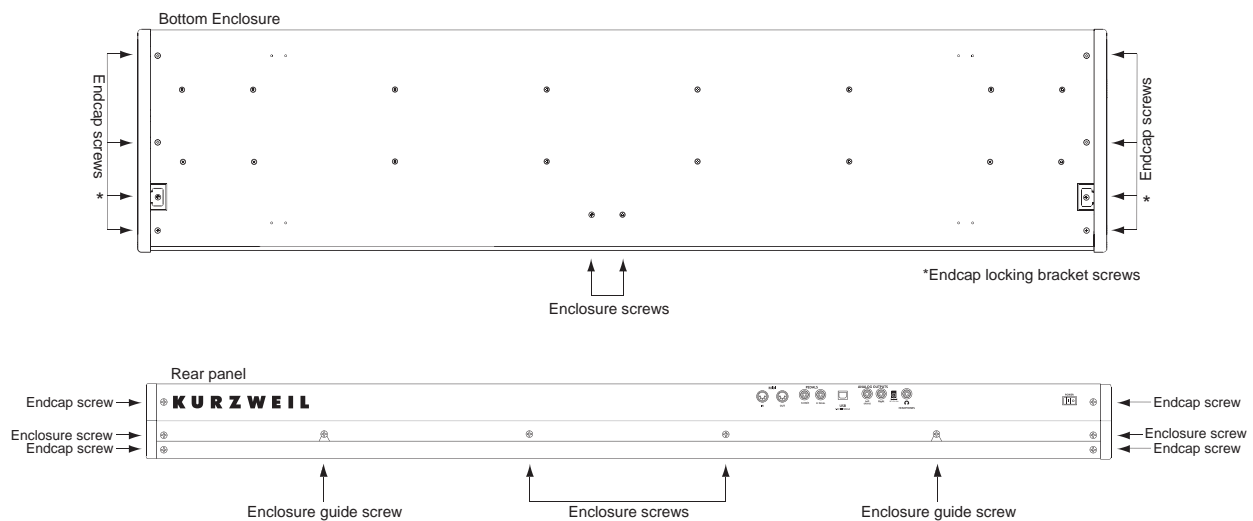

Figure 3-1 SP4-7 Screw Locations
Refer to Figure 3-1. Arrows indicate the locations of the endcap and enclosure screws.
3. Remove the six screws for one endcap (see Figure 3-1 for the endcap screw locations.)
2. Remove the four enclosure screws on the rear panel that secure the top enclosure to the bottom enclosure (see Figure 3-1 for the rear panel screw locations.)
3. Loosen the two enclosure guide screws (see Figure 3-1.) These screws do not need to be removed.
4. Next you must gain access to the two remaining enclosure screws on the bottom of the unit. Firmly hold onto the unit so that it does not fall from your workspace. Move the unit so that the rear panel hangs slightly over the edge of your work surface. Remove the two remaining enclosure screws on the bottom of the unit (see Figure 3-1 for the enclosure screw locations.)